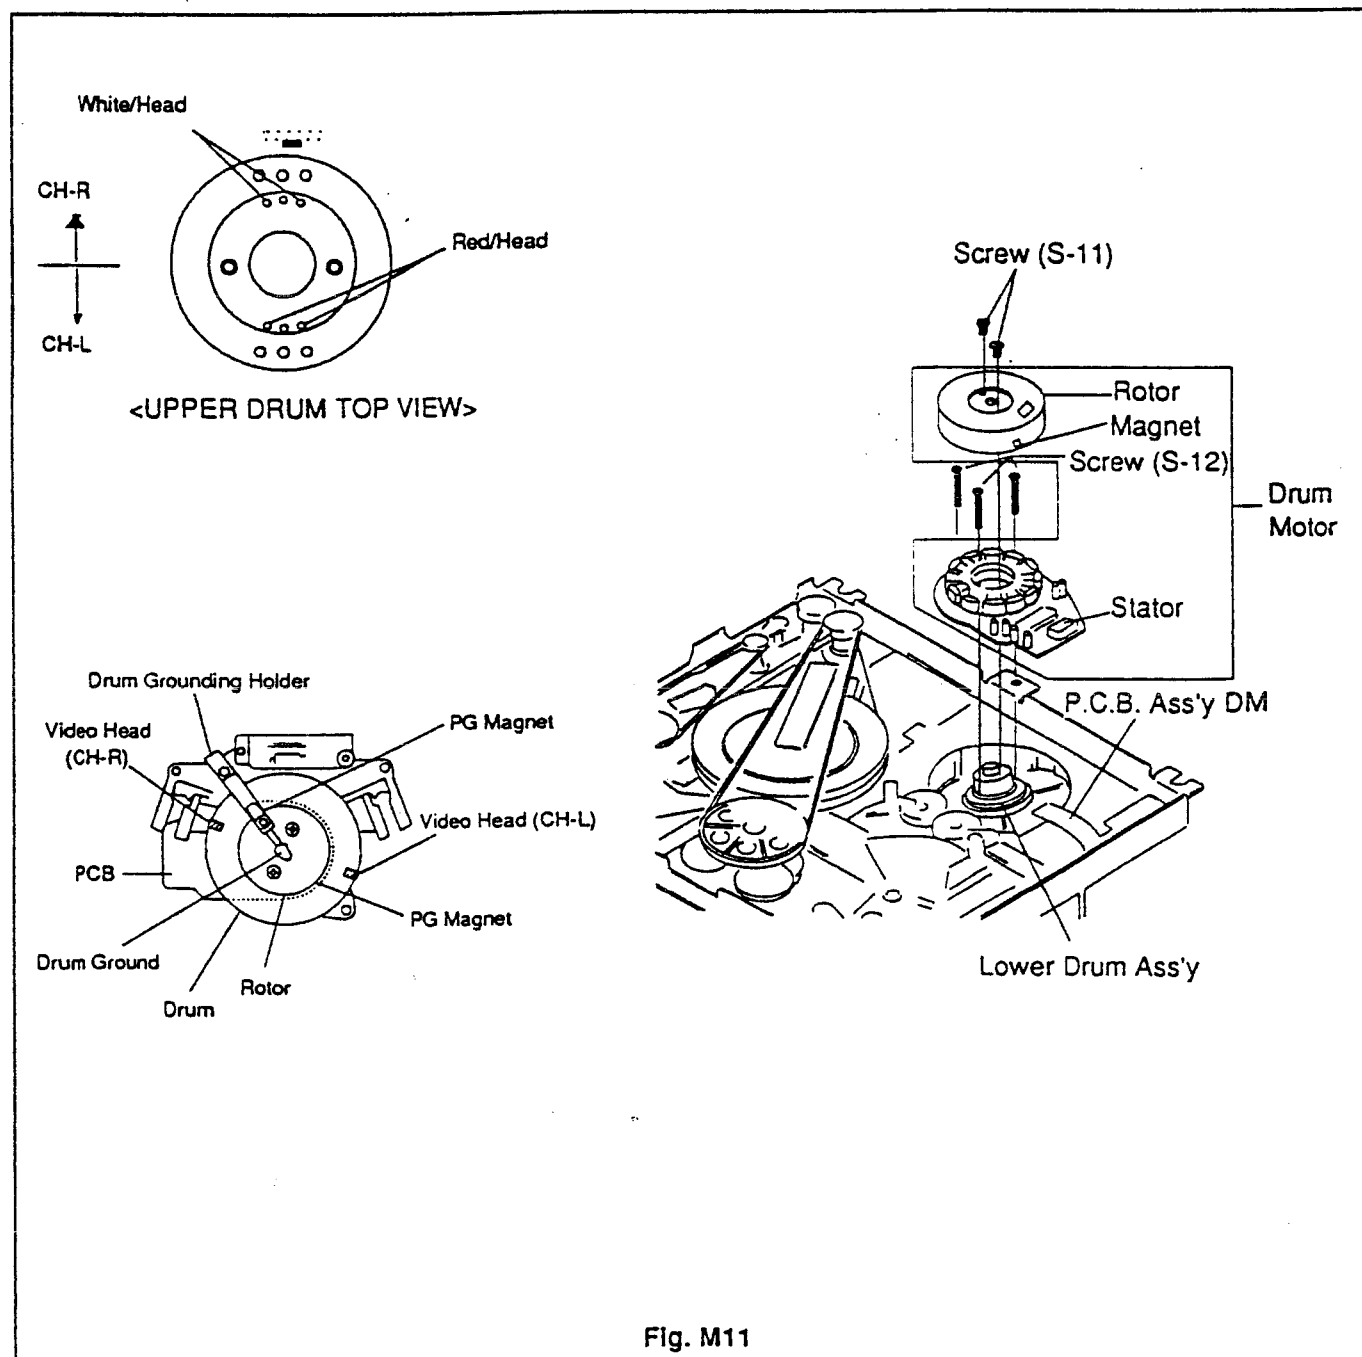

Fig. M11
6. Connect the P.C.B Assembly DM to the stator of Drum Motor. (Refer to Fig. M11)
Install the rotor of Drum Motor so that the PG Magnet on the side of Drum Motor Type No. Label (TM-84) aligns with the Video Head CHR. (Refer to Fig. M11)